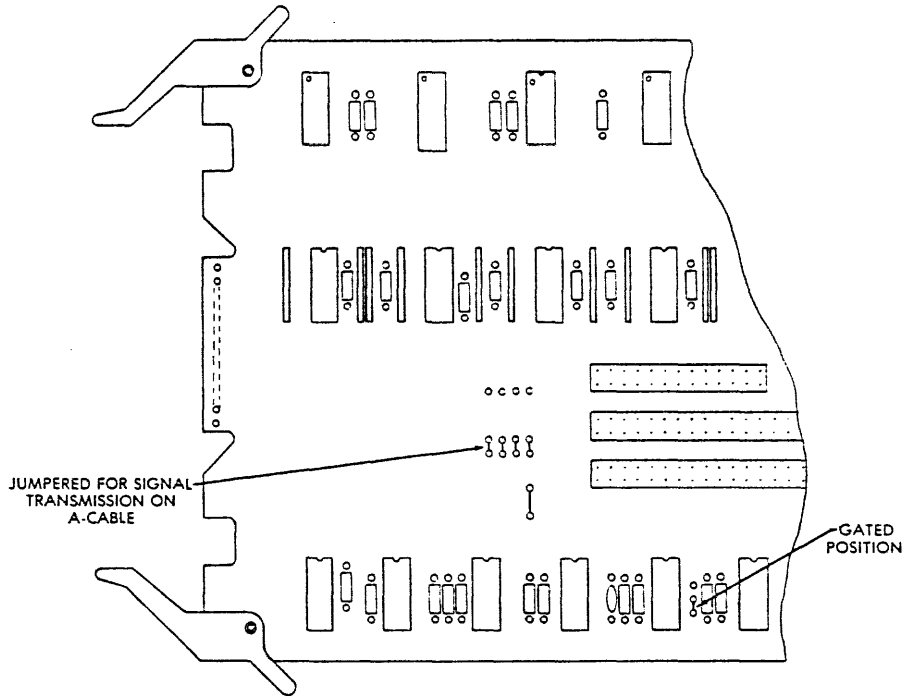

Figure 3-5. FAX Card Jumpered for A-Cable Gated
- A-cable gated** The jumpers on the __FAX card (slot A08) must be configured as shown in Figure 3-5. The card should be labeled as CFAF. Dual channel drives have a second card in slot B08 which must be jumpered and labeled in the same way.